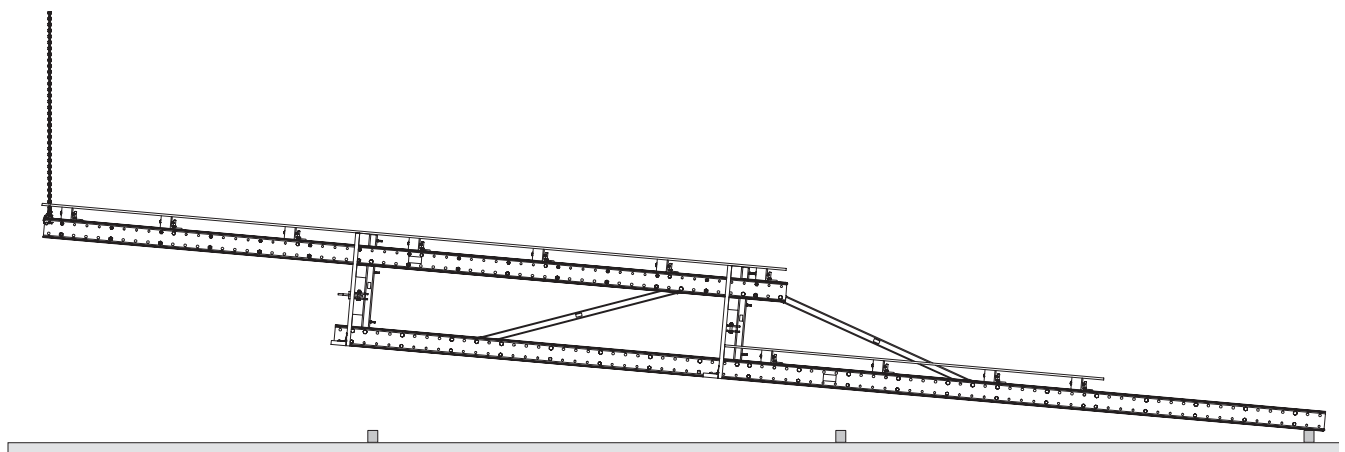

Fig. C4.02
7. Align and lift the climbing unit. (Fig. C4.02)